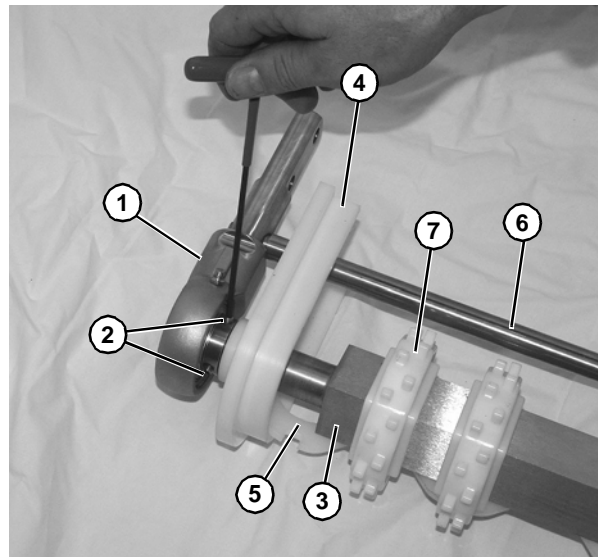

Figure 60
9. Remove the bearing cover from bearing shaft assembly (Figure 60, item 1).
10. Use a hex wrench to loosen two set screws (Figure 60, item 2) on the bearing shaft assembly (Figure 60, item 1).
11. Slide the bearing shaft assembly off of the drive spindle (Figure 60, item 3). Slide bearing shaft assembly off the drive spindle on opposite side.
12. Remove pinch guard (Figure 60, item 4) on each side.
13. Remove sprocket alignment bar (Figure 60, item 5), and pinch guard shaft (Figure 60, item 6).
14. Remove the sprockets (Figure 60, item 7).